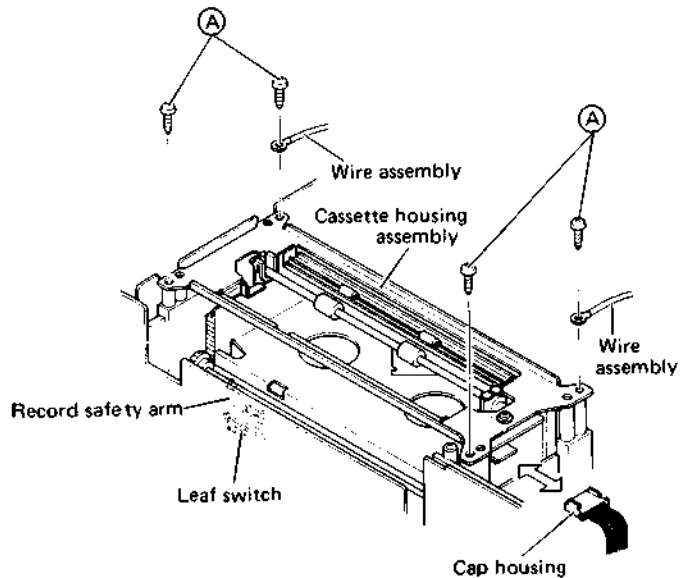

Fig. 4-3 Cassette housing removal
2. Take out four screws (A) and disconnect the cap housing (see Fig. 4-3). Carefully lift the cassette housing upward to remove it. During reassembly, use care that the record safety arm does not damage the leaf switch.
4. Insert the four screws (A), shown in Fig. 4-3 (also reattach the two wire assemblies), but do not tighten the screws.